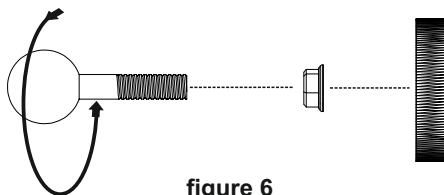

figure 6
Mount (4) & (5) as shown in figure 6. Screw the threaded ball (4) into the threaded insert on the rear of the loudspeaker (6) (loudspeaker not shown below).